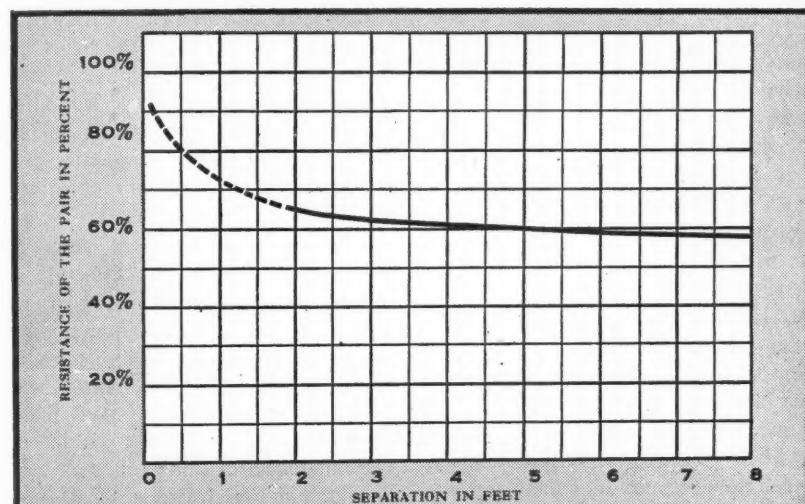
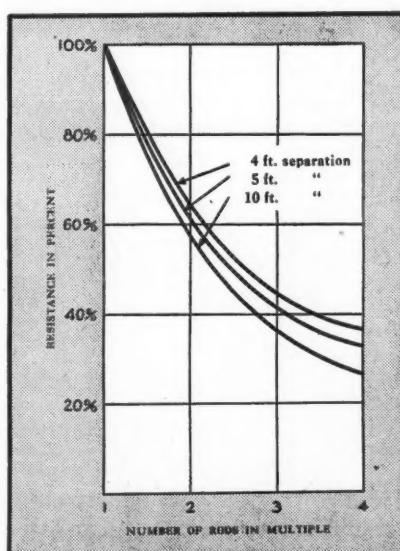

FIG. 3—SPACING OF MULTIPLE RODS has a definite effect. Minimum spacing should be six feet to obtain best results.
FIG. 4—MULTIPLE ELECTRODES are an effective method of reducing resistance. Chart shows approximate reduction obtained with two or more ground rods.
1. *Multiple electrodes*—A method suggested by the National Electrical Code is that of driving one or more electrodes and connecting them all in parallel. Since approximately 90 percent of the resistance of a driven ground is within a radius of 6 to 10 feet of the rod, additional driven rods should be spaced at least six feet away from each other (see Fig. 3). With this spacing, each electrode introduces a new cross-sectional area of unused soil. The approximate reduction in resistance obtained with two or more ground rods, compared with the resistance of one rod, is shown by the curves in Fig. 4.